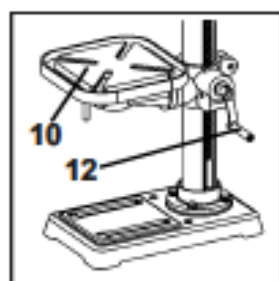

Fig 11
To adjust the Work Table(10) height, slacken the Crank(12) at the rear of the table support assembly. Raise table(10) up or down to desired height. When the desired height has been achieved, do not forget to re-secure the support lock. (Fig 11)